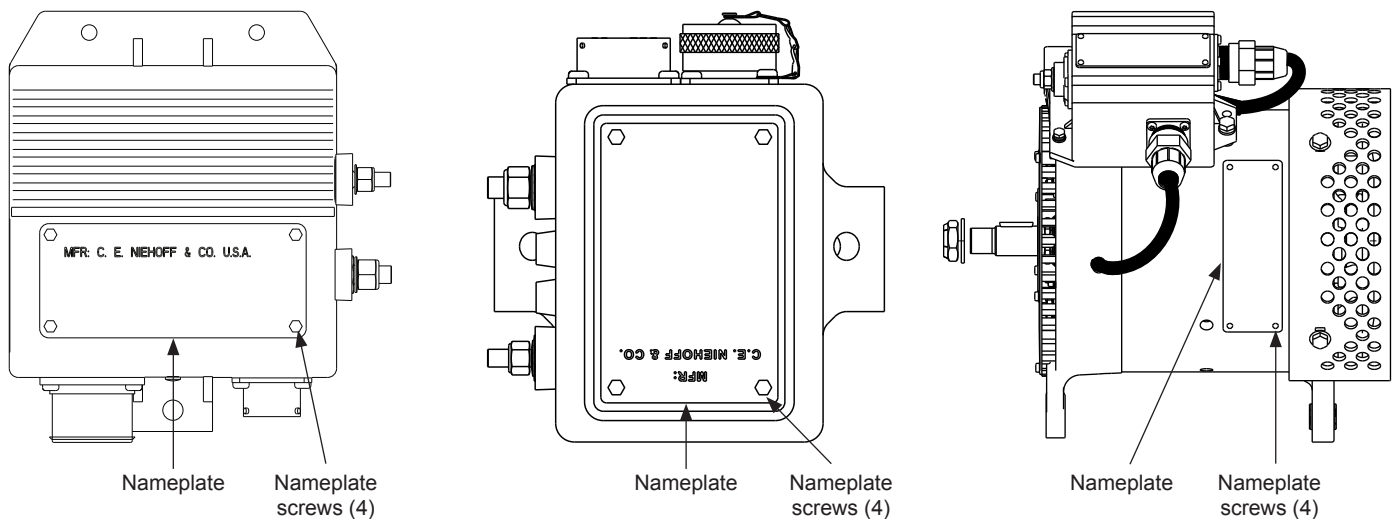

Figure 1: Typical Nameplate Locations
1. Remove existing nameplate screws using a 5/32 inch or 4mm socket or wrench. See Figure 1 below for example nameplate and nameplate screw locations.